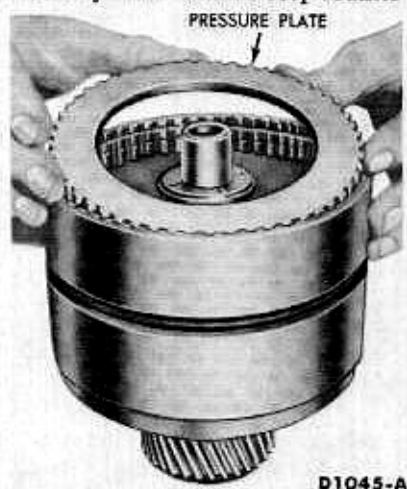

FIG. 27—Pressure Plate Installation
6. Install the pressure plate in the clutch cylinder with the flat side up (Fig. 27).